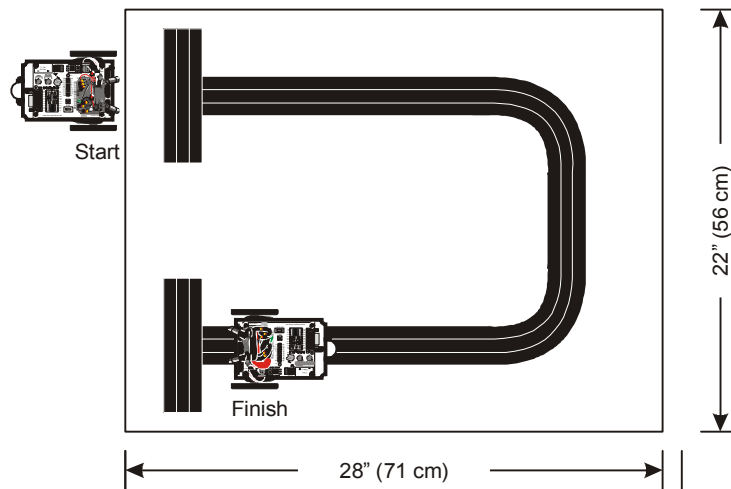

**Figure 8-13**
- ✓ Place your Boe-Bot at the “Start” location shown in Figure 8-13. The Boe-Bot should wait there until you place your hand in front of its IR pairs. It will then roll forward. When it clears the starting stripe, take your hand away, and it should start tracking the stripe. When it sees the “Finish” stripe, it should stop and wait there.